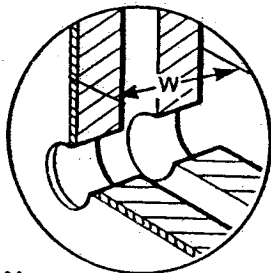

Fig. 41
2. Measure the thickness of the wall from the inside. This will be known as distance W (Fig 41).